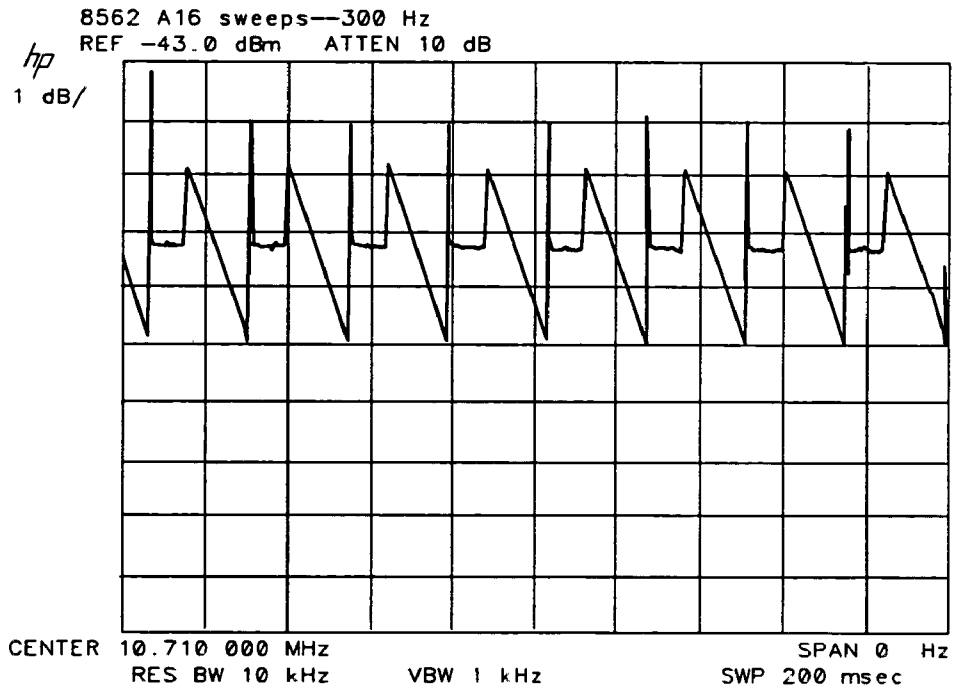

Figure 9-19. Output Waveform, 300 Hz RBW
15. Figure 9-19 illustrates normal operation. Severe failures (slope error >30%) and 3 kHz Resolution Bandwidth errors (<30%) indicate a problem with A16U7, U11, and U12.